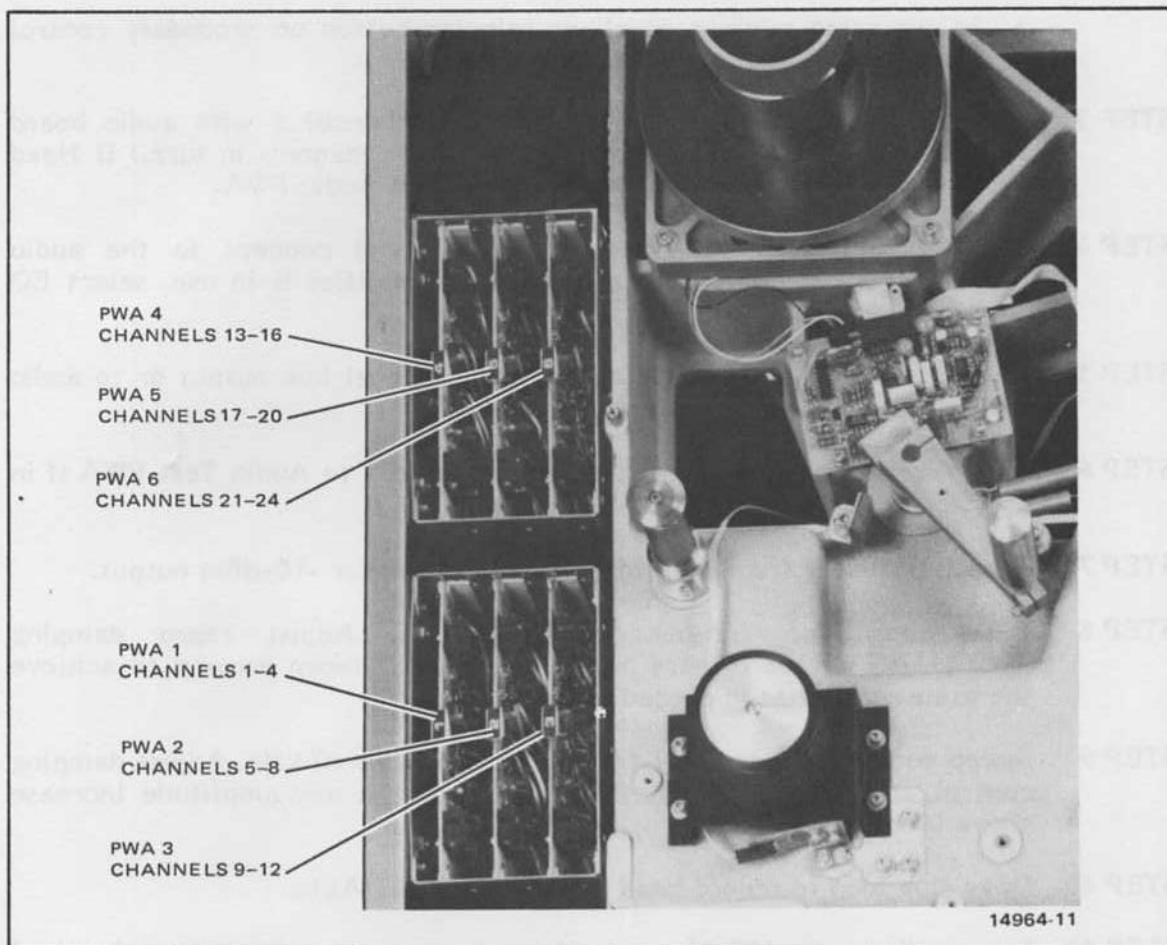

Figure 5-23. Pre-Amp PWA Location (Transport Trim Removed)
The reproduce and sync preamplifiers (Figure 5-23) consist of four PWAs (16-channel system) or six PWAs (24-channel system). Each PWA contains both Sel Sync and reproduce preamplifiers for four channels. The reproduce head preamplifier contains a high frequency head damping control, and the Sel Sync head preamplifier contains a low frequency compensating adjustment.
STEP 1 Remove top plate trim, locate Head Preamp PWA No. 1 (Figure 5-23), and remove and reinstall on an extender board.